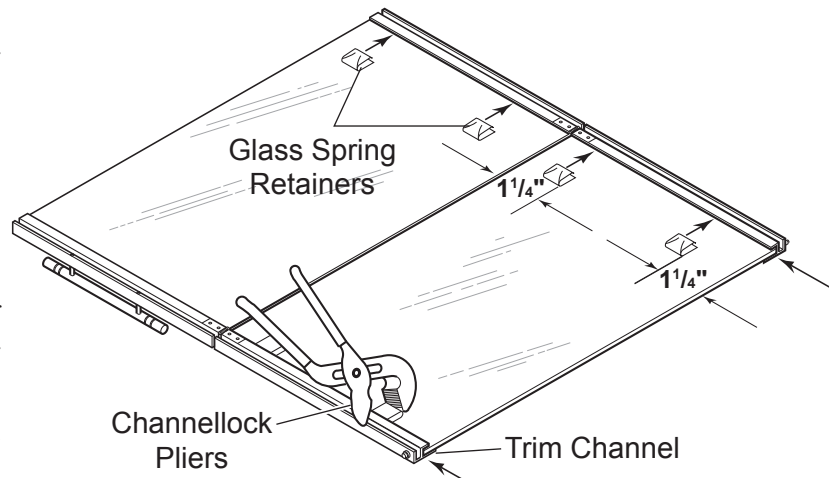

Figure 28 - Removing Glass Spring Retainers
2. Carefully remove any broken or damaged glass panel. Locate glass spring retainers which keep the glass panels in the upper and lower trim channels. See *Figure 28*. Each panel of glass is kept in place with four (4) glass spring retainers. If any of the retainers are lost, order them when you order replacement glass panels.
4. Position the glass spring retainers approximately $1\frac{1}{4}$ " in from each corner of the glass panel. See *Figure 28*.